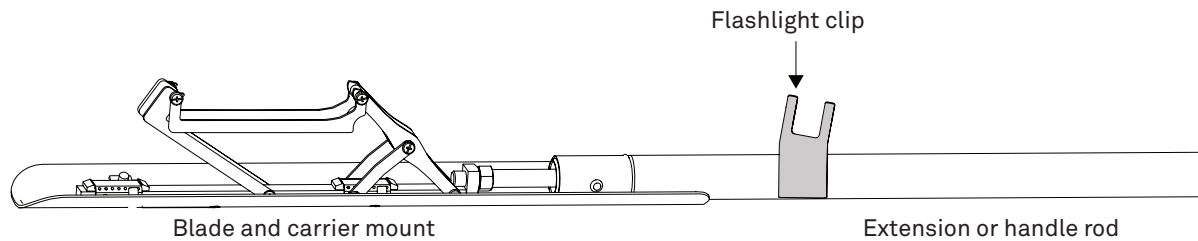

Figure 9 Flashlight clip mounted
1. Mount the flashlight clip on the side of the lower end of the rod (Figure 9).